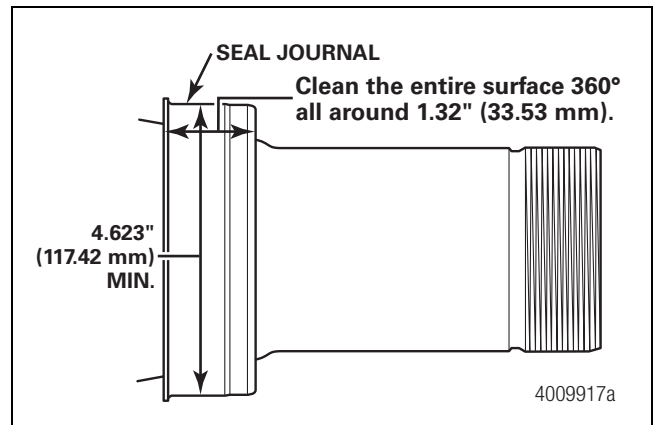

**Figure 15**
2. Check the axle spindle and seal journal for scratches, nicks or wear marks. Repair them with a crocus or emery cloth or electric power tool and wire brush wheel. Do not use pneumatic or electric power tools with a sanding pad. Using a pneumatic or electric power tool and sanding pad can remove too much material and create flat spots. Figure 15.